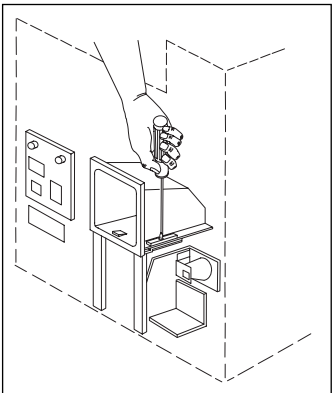

Figure 9.24
- 3. Use 9/64" Allen head screwdriver included in parts kit to reach inside and loosen the screw on each side of the exit port one-half turn (Figure 9.24).